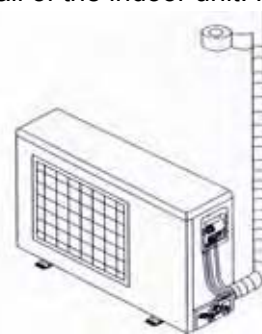

Fig.42
- (1) Use adhesive tape to bundle the connecting pipe and the cables together. To prevent condensate from overflowing out from the drainage pipe, separate the drainage pipe firm the connecting pipe and the cables.
- (2) Use thermal insulation tape to wrap the pipes from the bottom of the outdoor unit until the upper end of the pipe where the pipe enters the wall. When wrapping thermal insulation tape, the later circle of tape must cover half of the front circle of tape (Refer to Figure 42).
- (3) Wrapped pipe must be fixed to wall using pipe clamps.